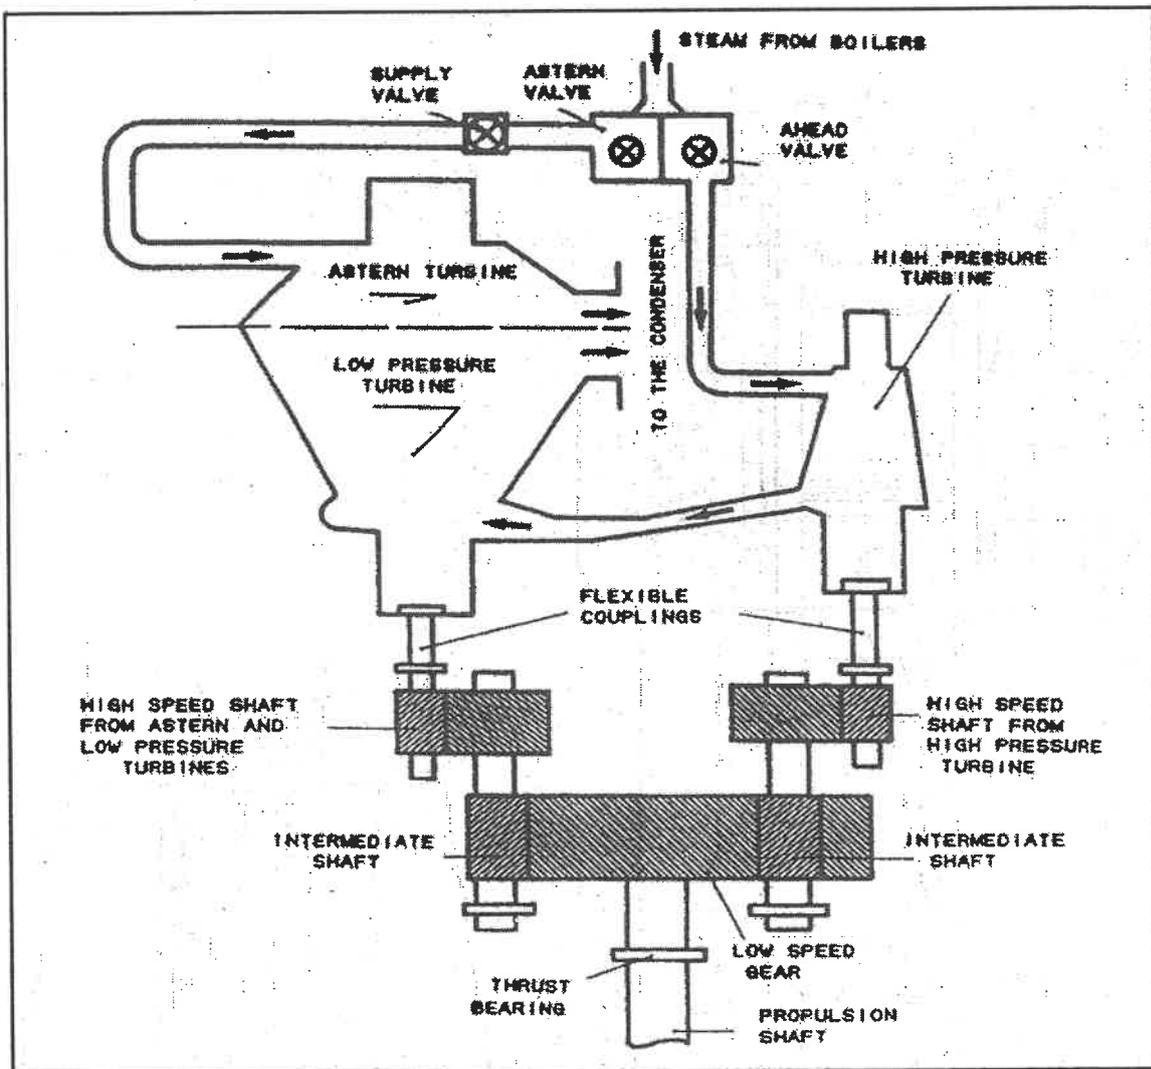

Figure 1: steam turbine propulsion system diagram
- a) Outline the complete operating cycle of figure: 1 steam in a marine steam turbine propulsion system diagram given, starting from the boiler and ending at the condenser. Include in your explanation the function of each of the following components: high-pressure turbine; low-pressure turbine, astern turbine, flexible couplings, and reduction gearing
- b) Based on Figure 1 diagram, identify and describe the role of three shafts in the system. Determine why speed reduction is necessary in marine turbine propulsion.